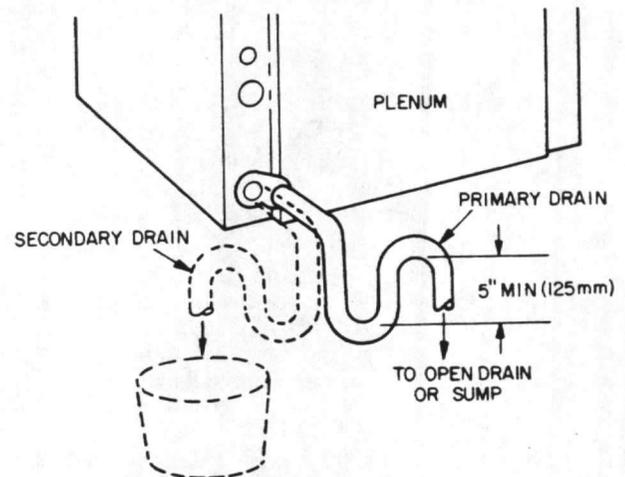

Fig. 8 — Condensate Trap
Step 5 — Make Primary Condensate Drain Line Connection to connection provided on unit (see Fig. 1). Install a trap in condensate line as close to unit as possible. Trap must be at least 3 in. (76 mm) deep and not higher than the bottom of unit condensate drain opening (see Fig. 8). Pitch condensate line to open drain or sump. Minimum recommended drain line size is 7/8-in. (22.22-mm) OD copper tubing or 3/4-in. (26.70-mm) OD galvanized pipe. Insulate condensate drain line(s) located above a living area.